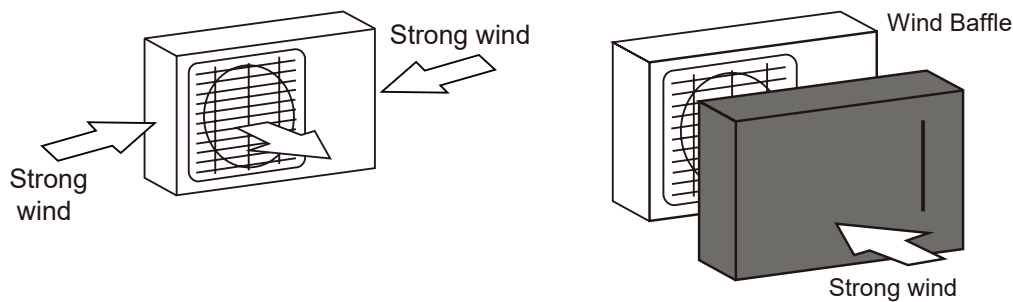

Figure 9.
- For installations prone or exposed to strong prevailing winds or breezes such as coastal areas, please ensure that the unit is sited appropriately, by placing it lengthwise along the wall to reduce any negative impact on the condenser fans. Refer to "Figure 9." on page 31.
Install unit so that air outlet fan is at a 90° angle to the direction of the wind. If needed, build a barrier in front of the unit to protect it from extremely heavy winds. Refer to Figure 9 below.